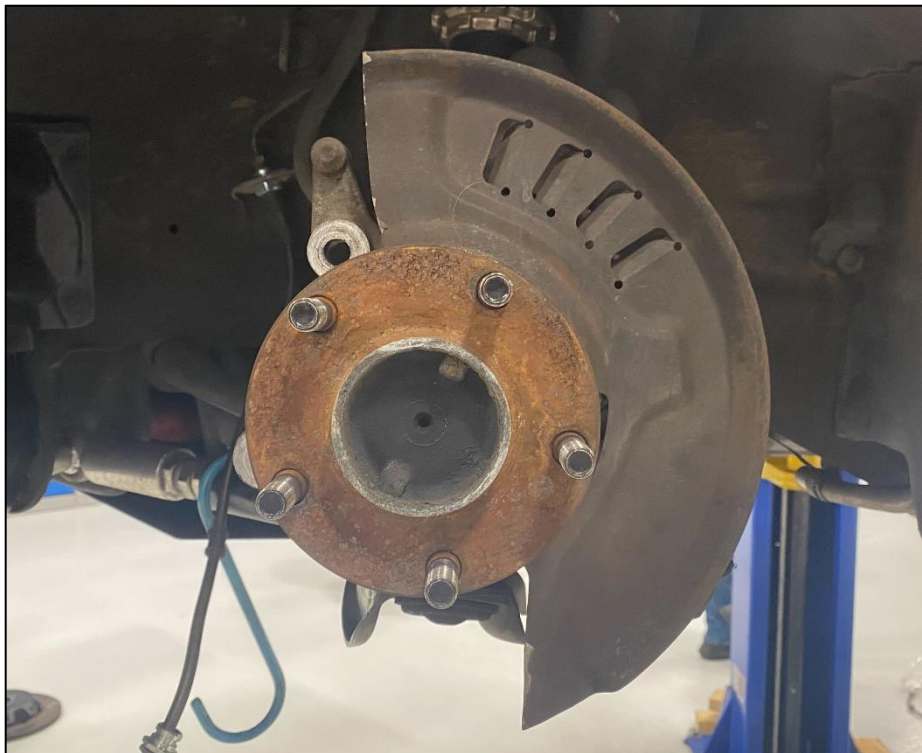

Figure 3
- The Dust Shield will need to be trimmed or completely removed to clear the Bracket and the larger Brake Rotor. Using a cut off wheel, Dremel, tin snips, or similar tool, trim the Dust Shield as shown below. *Figure 3.*